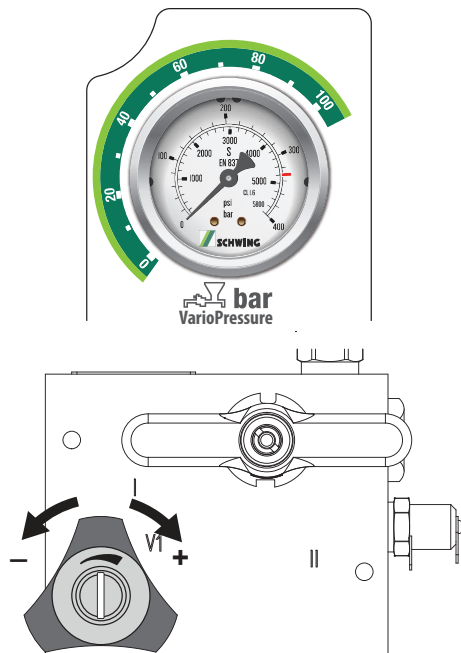

Figure 39
3. Start the machine and push the pump forward button. Observe the concrete pump pressure gauge (Figure 39). If the hydraulic pressure on the gauge remains constant, this indicates the last adjusted pressure set point.
5. The concrete pressure gauge is equipped with a scale on the outside. The scales indicate the material pumping pressure in relation to the hydraulic oil pressure (Figure 39). Turn the adjustable relief valve clockwise to raise the desired pressure or counterclockwise to lower the pressure (Figure 39).